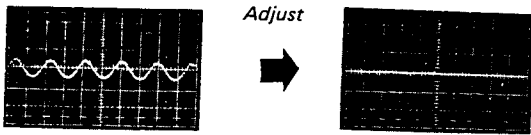
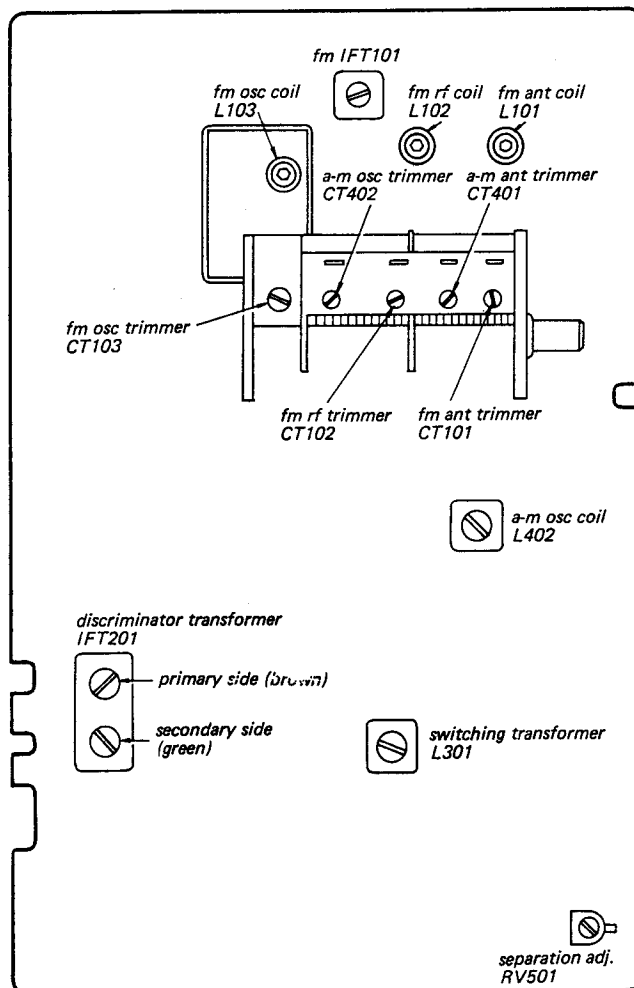

Fig. 3-6. Fm discriminator alignment output response
Fig. 3-10. Adjustment parts location
4. If the discriminator transformer IFT201 is not aligned correctly, 400 Hz ripple will be observed as shown in Fig. 3-6.
5. Turn the secondary side core (green) of discriminator transformer IFT201 (see Fig. 3-10) with an alignment tool to obtain a minimum indication on the oscilloscope as shown in Fig. 3-6.
7. Turn the core of fm IFT101 and primary side core (brown) of discriminator transformer IFT201 (see Fig. 3-10) to obtain the maximum output.
1. Precisely tune the set to the carrier frequency of stereo signal generator, then turn the top core of switching transformer L301 (see Fig. 3-10) to obtain maximum output at the left channel. Note that this adjustment has a close relationship with stereo distortion.
4. The output-level to residual-level ratio represents the separation. Adjust separation adj. control RV501 (see Fig. 3-10) for minimum residual level. Check the right channel for separation. Usually, about an 8 to 9 dB difference in channel separation exists. Readjust RV501 for minimum difference between left- and right-channel separation. While